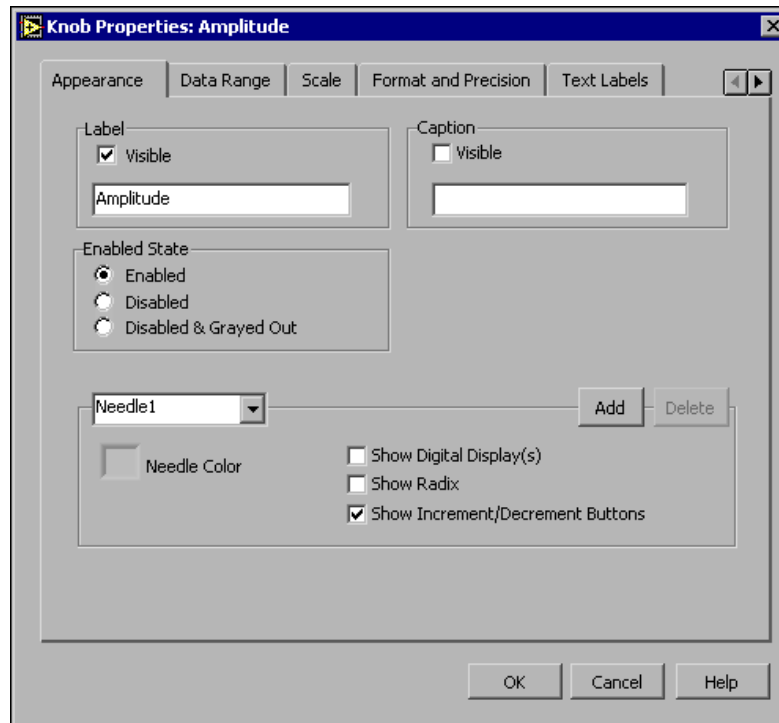

Figure 2.24
2. In the **Label** section on the **Appearance** tab, delete the label **Knob**, and type **Amplitude** in the text box. The **Knob Properties** dialog box should appear similar to Figure 2.24.